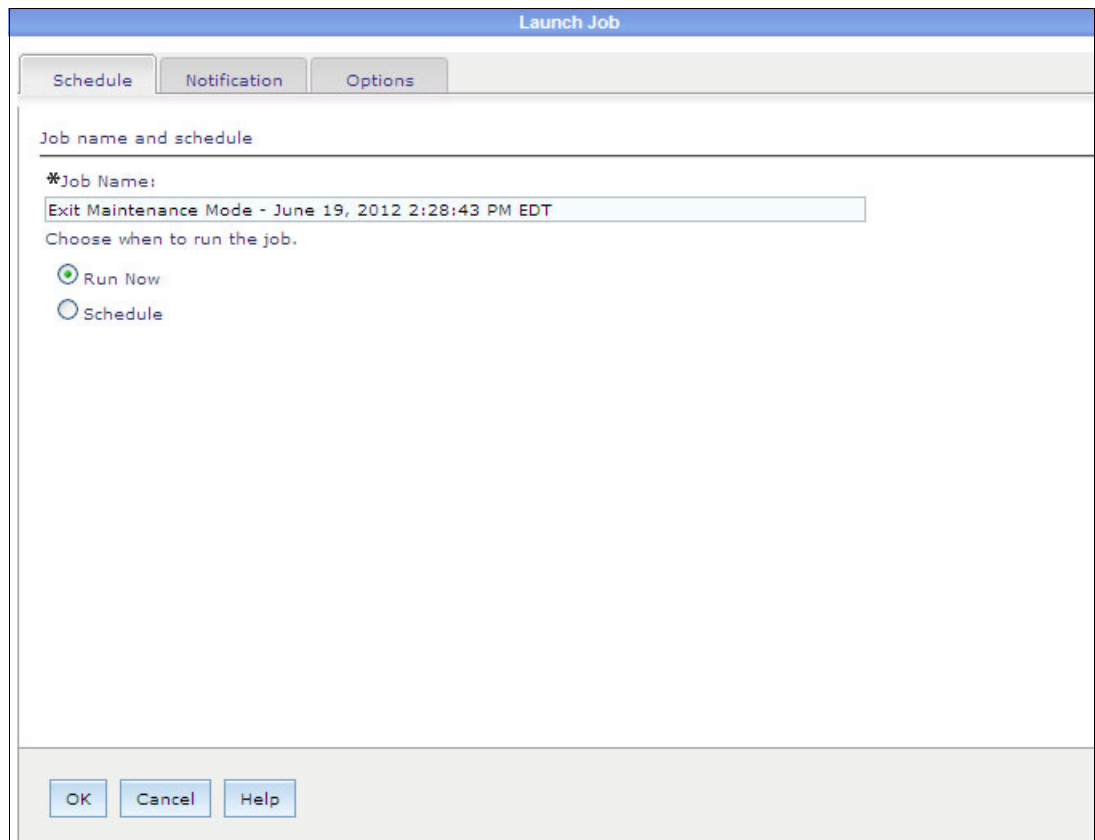

Figure 11-59 Exit Maintenance Mode Launch Job window
4. Click **OK** to start the job immediately, as shown in Figure 11-59.